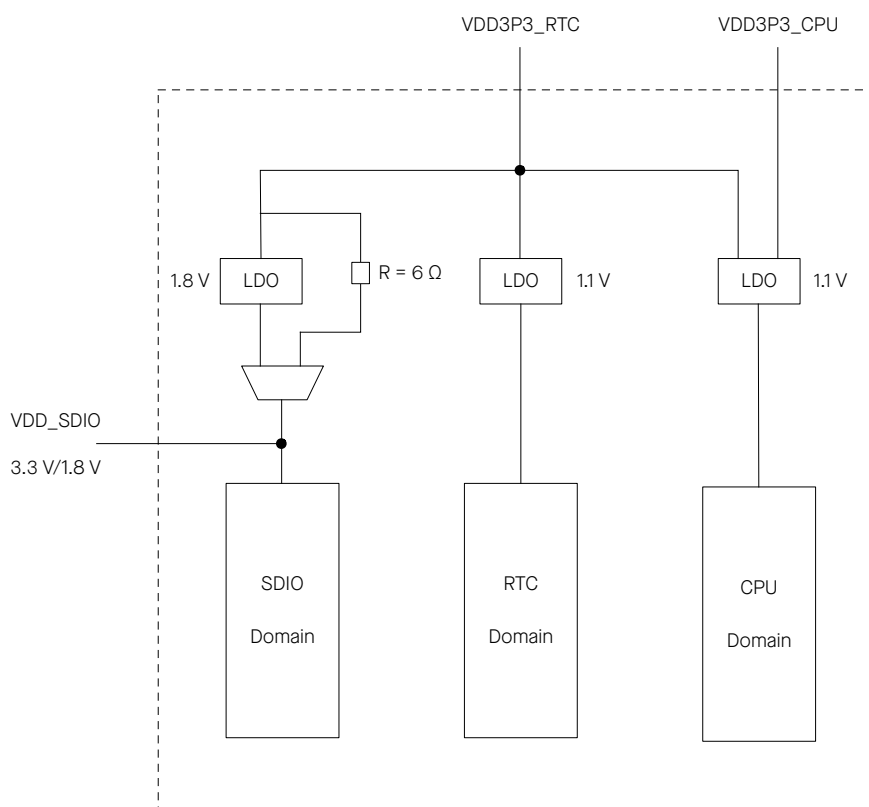

Figure 2-3. ESP32 Power Scheme
The power scheme is shown in Figure 2-3 ESP32 Power Scheme.
1. As the in-package flash/PSRAM in ESP32-U4WDH/ESP32-D0WDR2-V3 operates at 3.3 V, VDD\_SDIO must be powered by VDD3P3\_RTC via a 6  $\Omega$  resistor. See Figure 2-3 ESP32 Power Scheme.